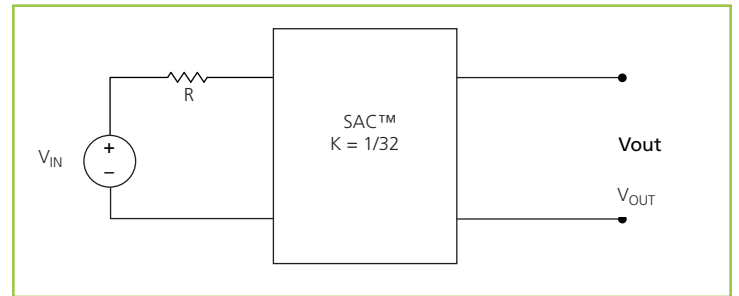

Figure 15 — K = 1/32 Sine Amplitude Converter™ with series input resistor
interesting attributes. Assuming that R\_OUT = 0 Ω and I\_Q = 0 A, Eq. (3) now becomes Eq. (1) and is essentially load independent, resistor R is now placed in series with V\_IN as shown in Figure 15.
Assuming that  $R = 1 \Omega$ , the effective R as seen from the secondary side is  $0.98 \text{ m}\Omega$ , with  $K = 1/32$  as shown in Figure 15.